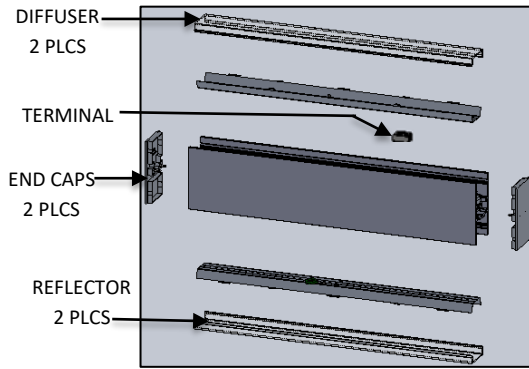

FIG. 10 – FIXTURE DISASSEMBLY
6. Pull off END CAPS and slide DIFFUSER/LOUVER out of the grooves of the fixture body as shown in FIG.10. Remove the REFLECTORS by using a FLAT SCREWDRIVER to release the Tabs. Release wires from ballast and Pull the supply conductors through the large slot.